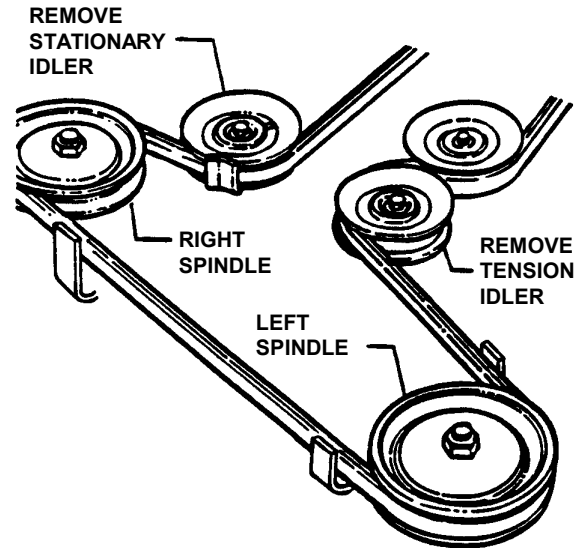

FIGURE 4.15
8. Remove idler. See Figure 4.15.
9. Route belt onto spindle pulley. Make sure belt is inside spindle belt guide and idler belt guide. Route belt as shown in Figure 4.15.
5. Reinstall tall battery cover. See Figure 4.15.